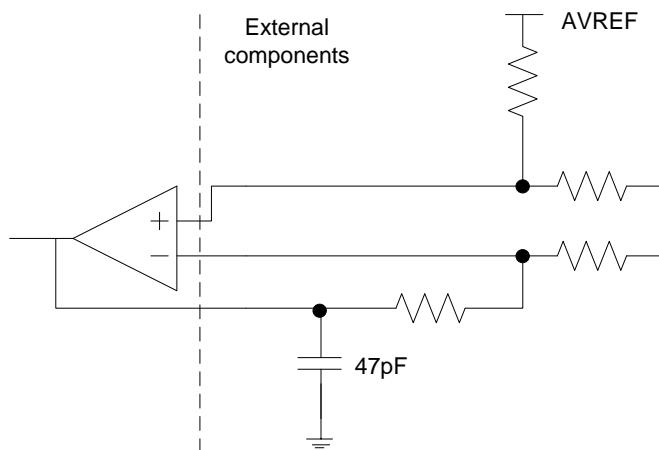

Figure 7. Op amp output capacitor
(1) Data guaranteed by design.
(2) To guarantee stability of the operational amplifier, it is recommended to load the output pin by a capacitor of 47pF, see Figure 7.